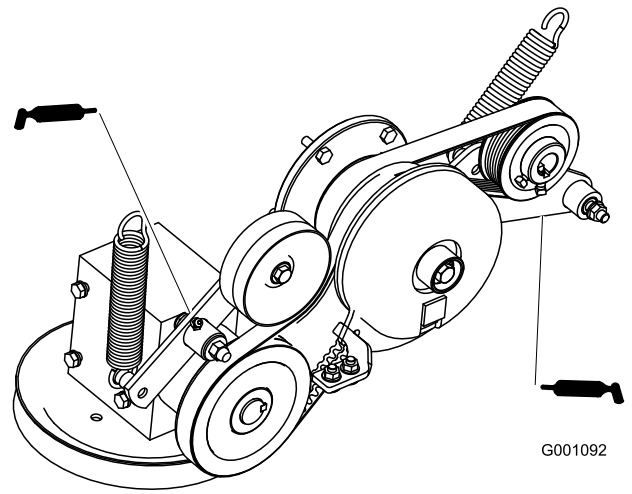

Figure 29
6. Grease the PTO drive belt idler arm (Figure 29).
7. Grease the pump belt idler arm (Figure 29).